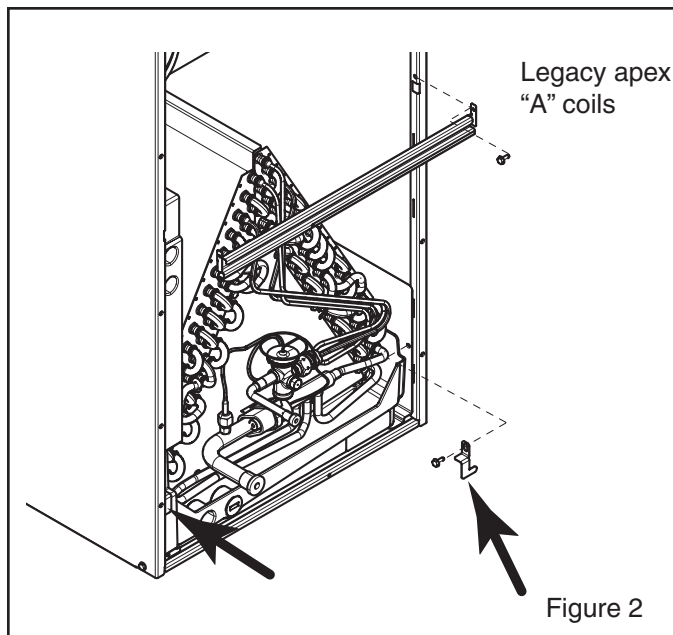

Figure 2
1. Remove the center brace and the two coil retaining brackets. See Figures 2 and 4.